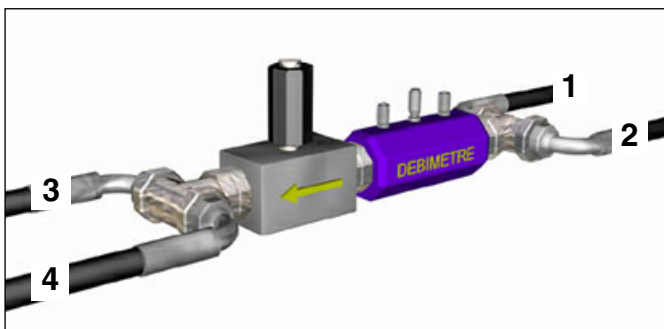

Fig. 2 Flow meter adaptation kit (Top-Test/MX)
- small chambers of the dipper ram and bucket ram (1 fig. 2) and (2 fig. 2).
- large chambers of the dipper ram and bucket ram (3 fig. 2) and (4 fig. 2).